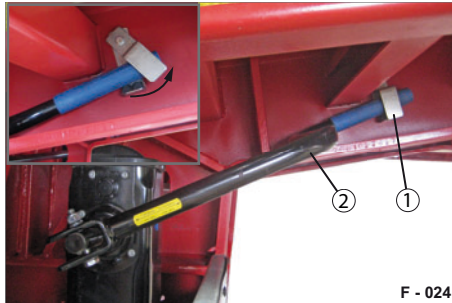

Fig. 55 Crank handle secured
- ▶ Turn the safety latch (Fig. 55/1) upwards.
- ▶ Pull out the hand crank (Fig. 55/2) and swivel it forwards under the vehicle body.
- ▶ Insert the hand crank (Fig. 55/2) according to Fig. 55.
- ▶ Secure the crank handle with the safety latch (Fig. 55/1).